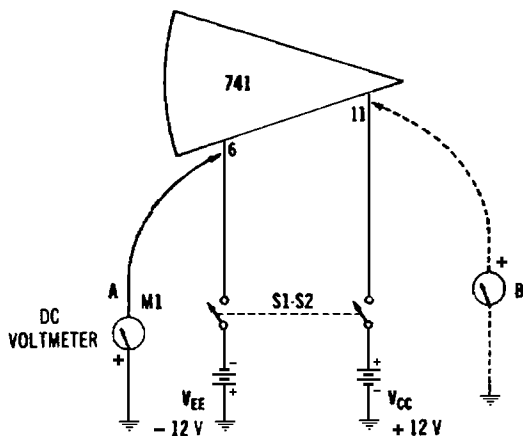

Fig. 2-1. Dc operating voltages.
### Required Equipment (Fig. 2-1)
1. With switch S1-S2 open, set up the test circuit as shown in Fig. 2-1.